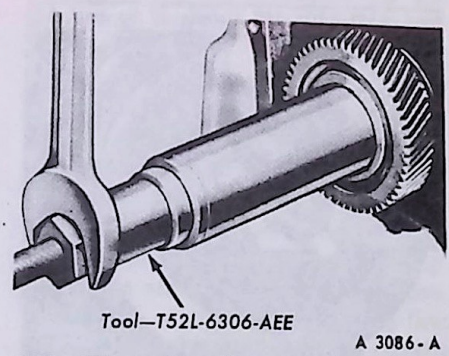

FIG. 18 Installing Crankshaft Gear
1. Install the crankshaft gear (Fig. 18) and the camshaft gear with the timing marks aligned (Fig. 15), then install the camshaft gear attaching bolts. The bolts are unequally spaced. Tighten the bolts to specifications.